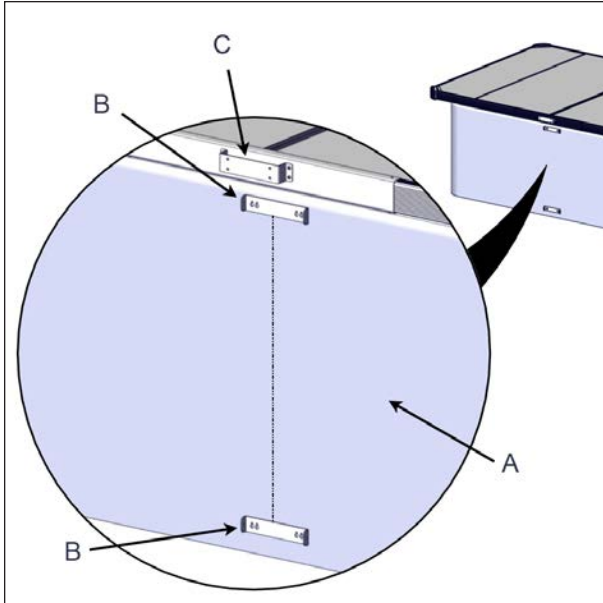

FIGURE 72: TUB MOUNT BRACKET INSTALLATION
7. Position the tub mount brackets with the previous marks, fasten it properly and securely to the spa frame (Figure 72). If the spa structure is over 50" (127 cm) high, install the extended tub mount bracket on the